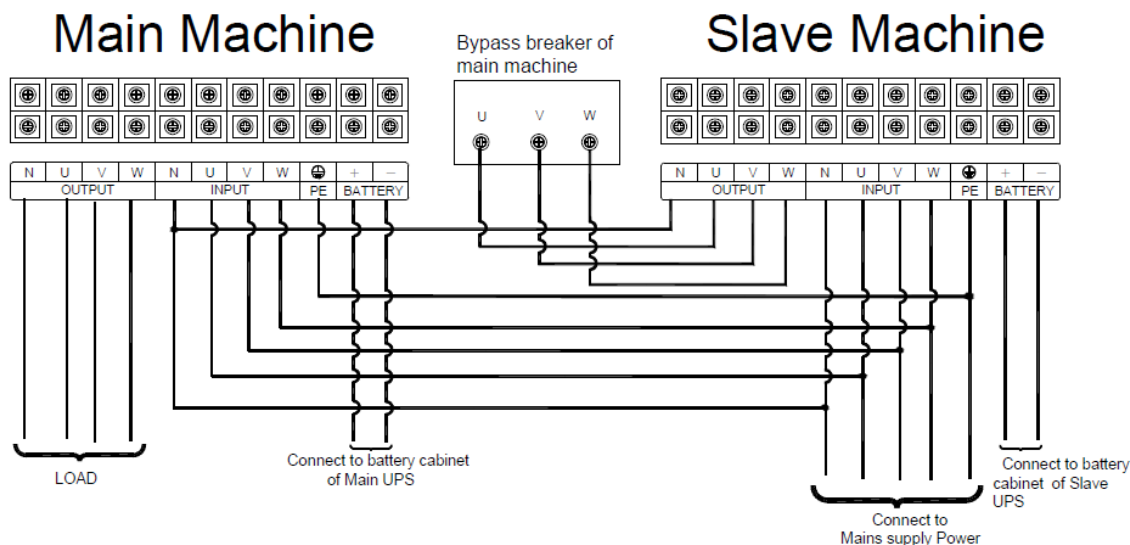
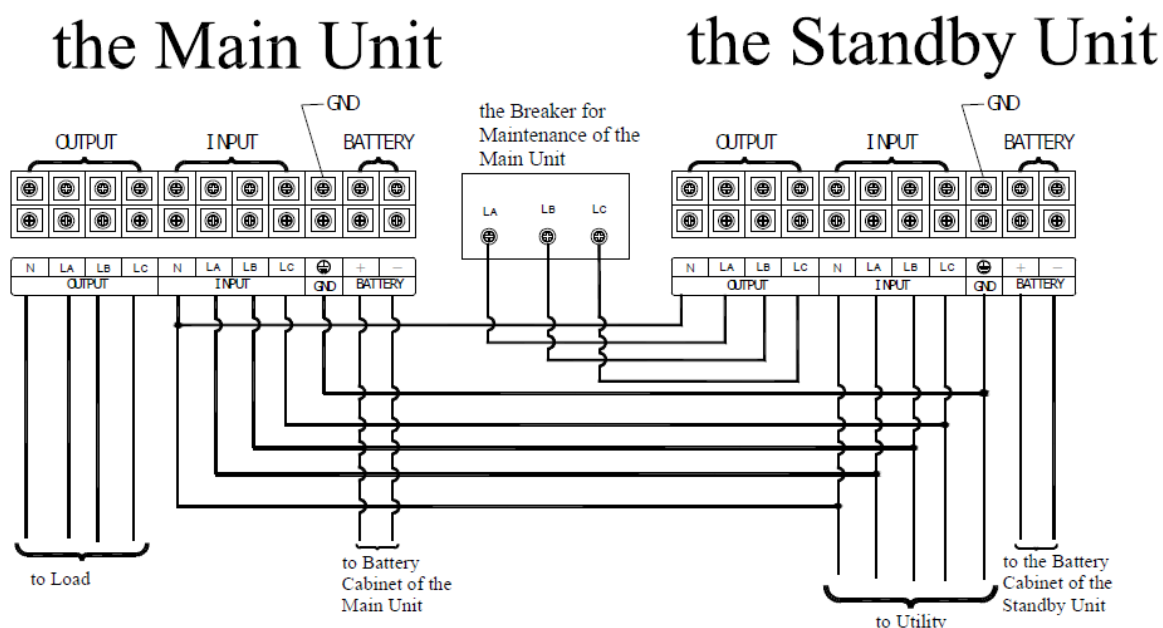

Figure 3-10 Connection of the Hot Standby System(10~60KVA)
Figure 3-11 Connection of the Hot Standby System(80~160KVA)
- 4) Other connections are the same as the connections of a single unit, as shown in figure 3-10 and figure 3-11.
The connection of the hot standby system is shown in figure 3-10 and figure 3-11: